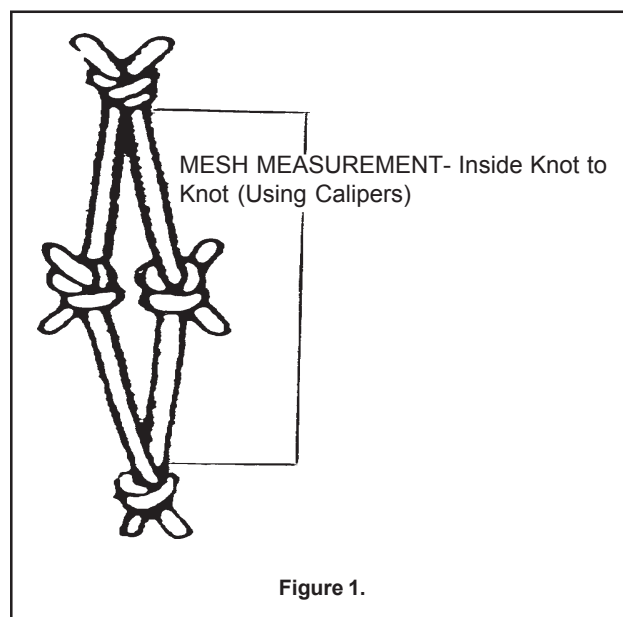

Figure 1.
35. NUMBER OF NETS AT EACH MESH SIZE: Complete the table by recording the number of nets, and their corresponding mesh size, to the nearest hundredth of an inch. This value may be obtained by measuring a stretched mesh using calipers. This measurement should be taken inside, from knot to knot, in the direction in which the mesh is hung. See Figure 1 and Appendix P. Vernier Caliper Instructions for further information. This information may also be obtained from the captain.